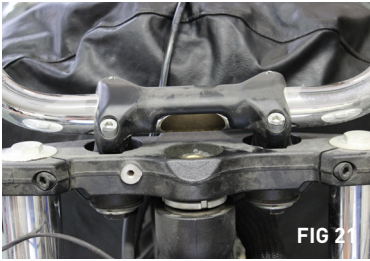

FIG 21
- g. Carefully loosen and remove handlebar clamp bolts ensuring that the bars do not fall onto the fuel tank (**Fig 21**)